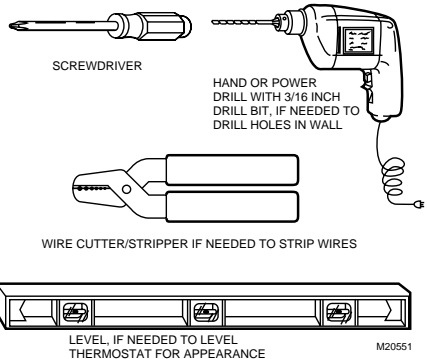

Fig. 1. Required installation tools/supplies.
- ❑ Acquire tools and items, as needed. See Fig. 1.